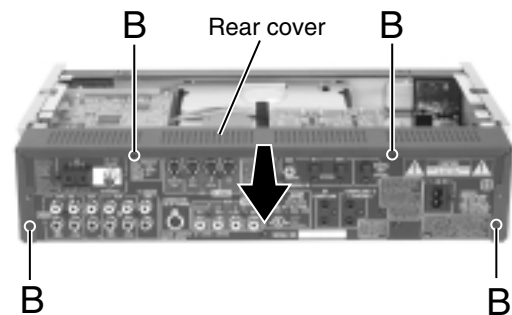

Fig.3
■ Removing the rear cover (See Fig. 3)